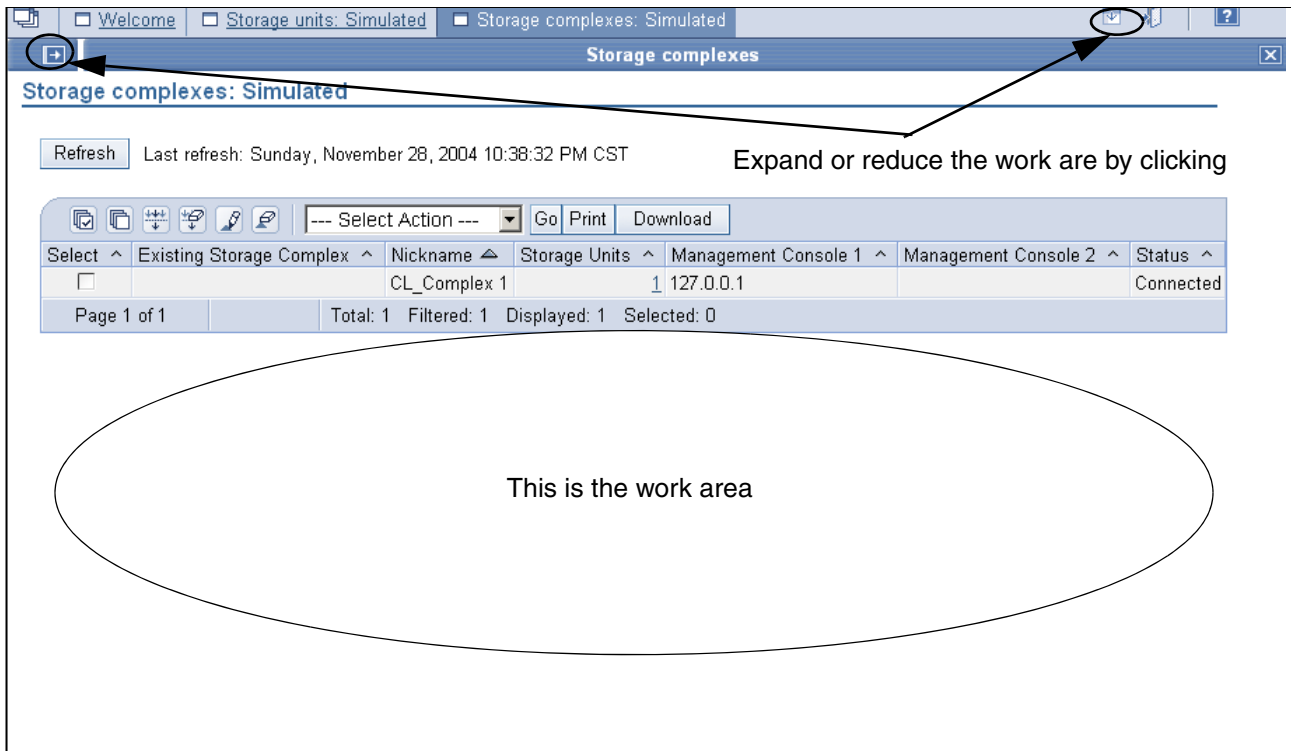
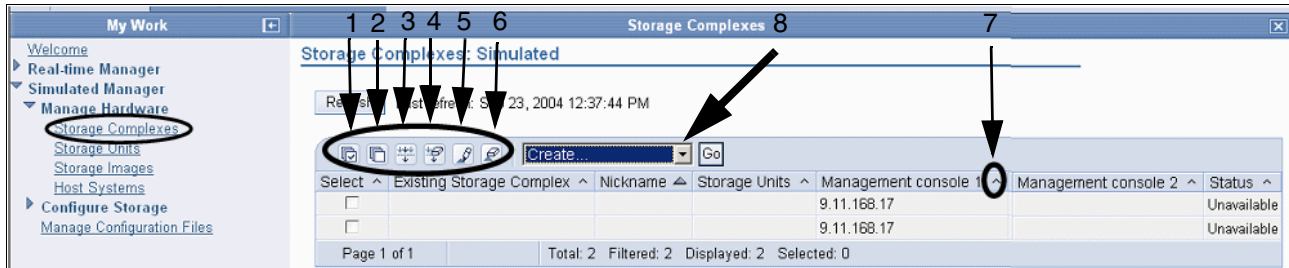
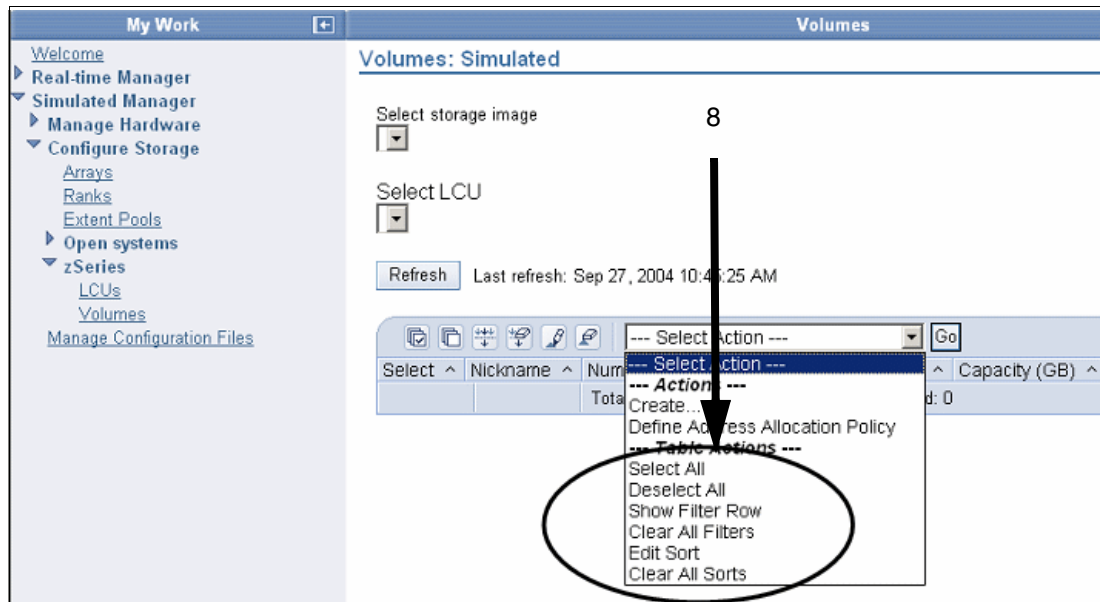

Figure 9-19 View of the storage complexes in the work area
Figure 9-20 View of the Storage Complexes section
Figure 9-21 Storage unit view of the drop down box
Figure 9-19 shows that by clicking the expand work area buttons, both the banner and the My Work area can be reduced to allow an expanded view of the work area.
If you want to reduce the work area and work from the Real-time or Simulated Manager menu selection again, simply click the button shown on the upper left of Figure 9-19.
The buttons displayed on the Storage complexes screen, shown in Figure 9-19 and called out in detail in Figure 9-20, have the following meanings.
- ▶ The caret called out as item 7 is a simple ascending/descending sort on a single column.
- ▶ Clicking the pull-down menu identified as item 8 results in display of the actions list shown in Figure 9-21, which are the identical actions as represented by boxes 1 through 6 in Figure 9-20.